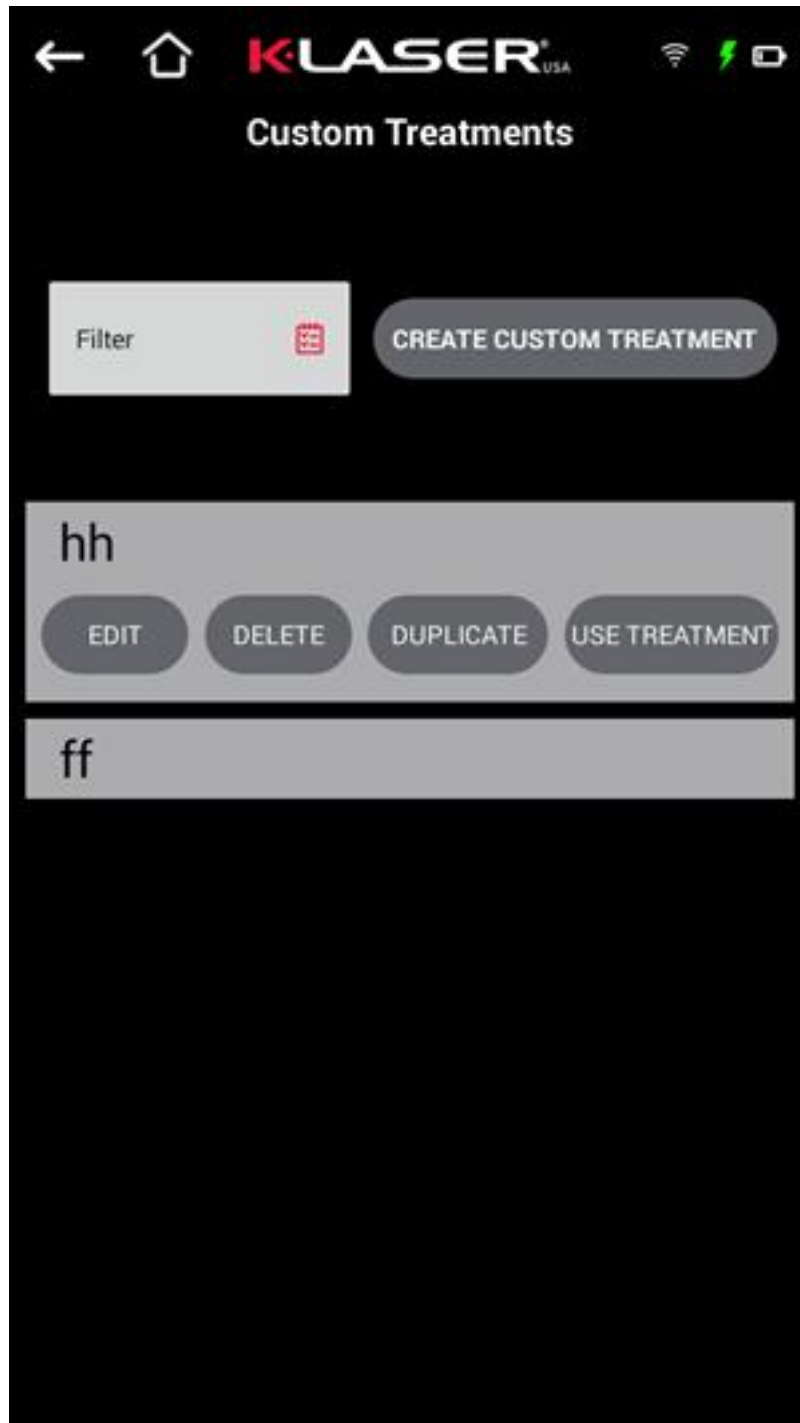

Figure 4: Custom Treatments Interface
4) Click "CREATE CUSTOM TREATMENT" in the Custom treatments Interface (Figure 4) , create a new treatment plan.